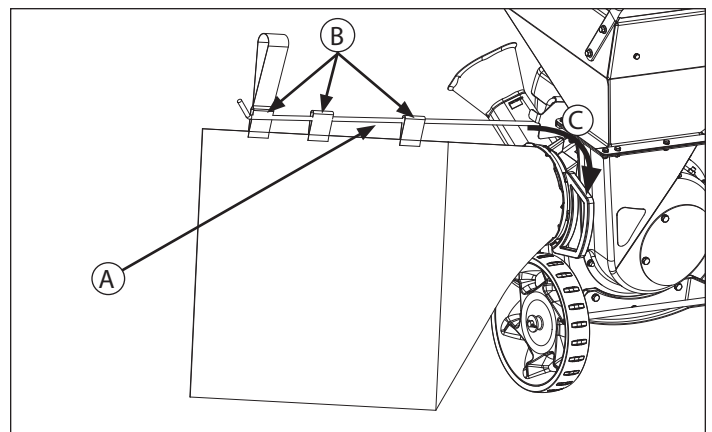

FIGURE 8
2. Slide the tabs (B) on the debris bag onto the support rod (A). **FIGURE 8**
3. Secure the bag connector onto the chipper by rotating the connector until locked in. **SEE FIGURE 8**